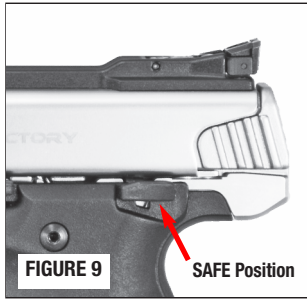

FIGURE 9
- Place the manual safety in the “SAFE” (up) position (FIG. 9).